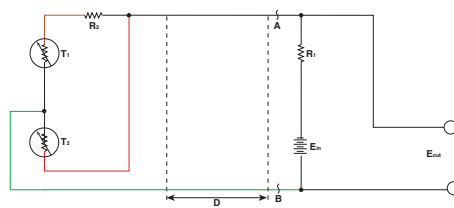

Figure 3 Voltage Mode
1. For voltage mode, connect R_2 to the thermistor composite. (See Figure 3.) This unit can function as the temperature sensor and be located remote from the signal conditioning circuit by up to distance "D".